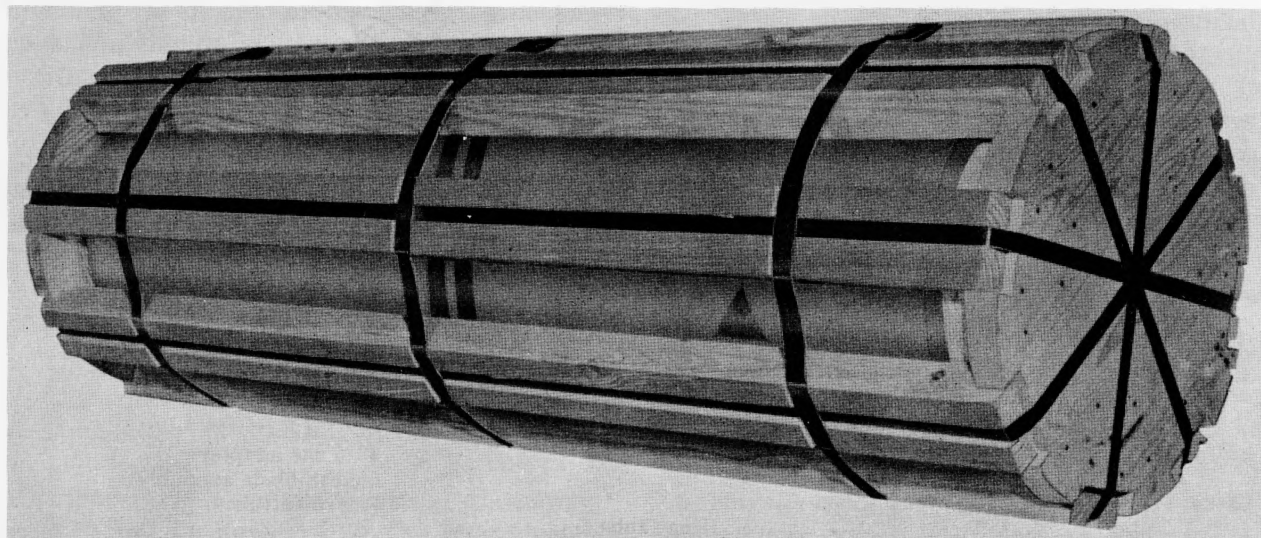

Figure 8. M30 cluster adapter in M4 shipping guard.
a. *M30 Cluster Adapter.* The M30 cluster is shipped in an M4 shipping guard (fig. 8) constructed of eight wood ribs and two wood end